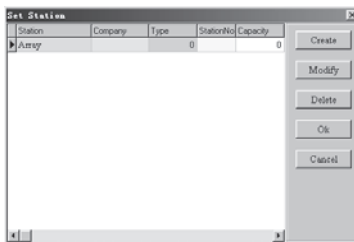
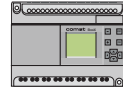
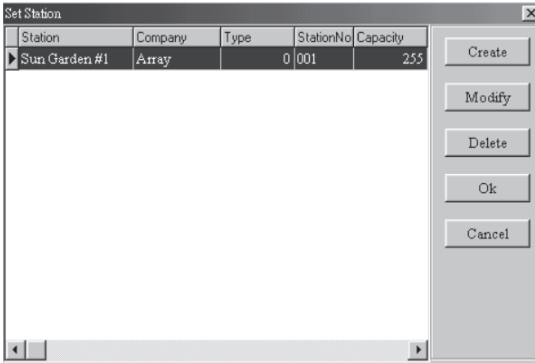

Fig. 4.2
Fig. 4.3
Fig. 4.4
2. A station design dialogue box will automatically appear in the system, as shown in Fig. 4.2.
3. If you design a Station for the first time, click “**Create**” in the right of Fig. 4.2 to enter station setup dialogue box, as shown in Fig. 4.3. If your system already has a designed station, then click “**Modify**” to modify the existing station and enter station setup dialogue box. Or click “**Delete**” first to delete the existing station and then click “**Create**” to enter the Station Setup dialogue box.
4. In the Station Setup dialogue box, as shown in Fig. 4.3, the Station Name and Comm must be entered and cannot have duplicates, it must be unique. When editing is complete, click “OK”, this finishes the setup of the Station Name and the Communication method, then the dialog box, as shown in Fig. 4.4 will appear.